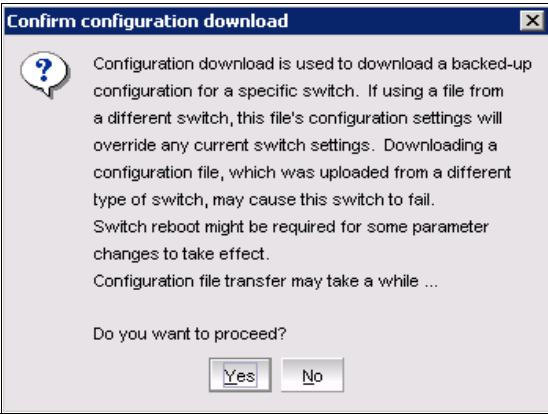

Figure 12-62 Confirm configuration download
5. Select **Yes** in the confirmation window, as shown in Figure 12-62.